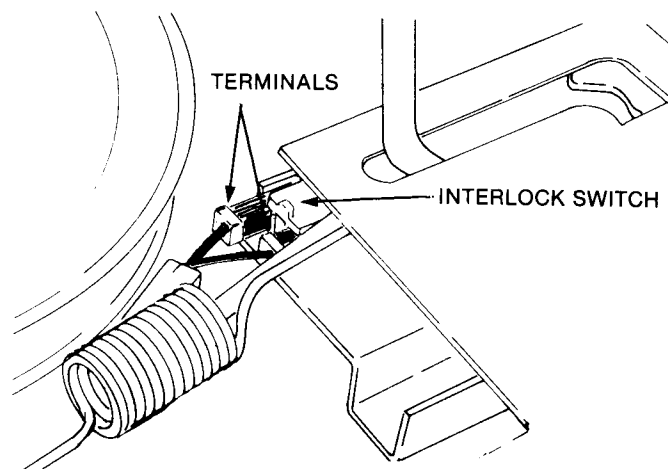

FIGURE 8 - DISCONNECT INTERLOCK
STEP 3: Unplug the wiring harness terminals from the carrier interlock switch (Figure 8).